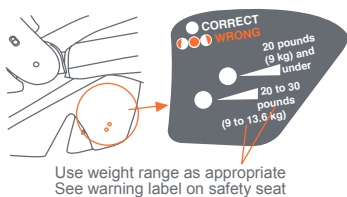

Fig. 47-2
For your child's safety, the Safety Seat must be properly reclined when installed in the vehicle. The Safety Seat includes a Seat Angle Indicator on the lower portion of the shell on the child's left side, to assist in achieving the proper angle of recline for the Safety Seat. (Fig. 47-2)
2. **Safety Seat without Base:** Check that the Safety Seat is level side to side on the vehicle seat. Check the level indicator as shown in Fig. 47-2.